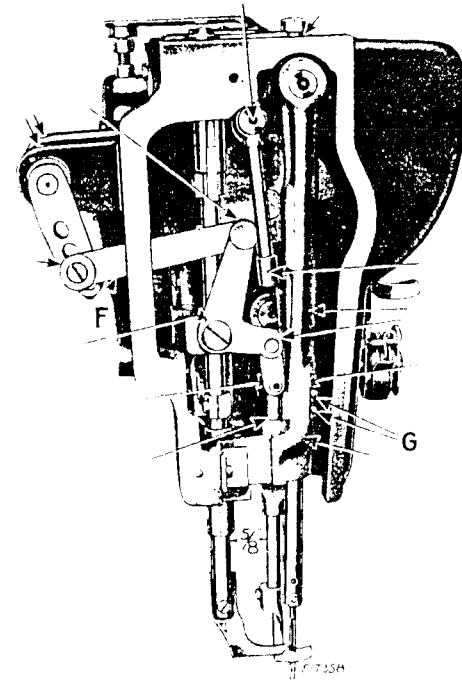

Fig. 4. End View of Machine Showing Oiling Points Also Adjustments on the Machine
In case the needle bar is not correctly set, loosen the needle bar connecting stud pinch screws at (G, Fig. 4) and place the needle bar in correct position as directed above, then retighten the screws (G).
The distance between the vibrating presser bar and lifting presser bar, after adjusting the feed mechanism so that there is no feed movement of the needle bar, should be $\frac{1}{8}$ inch as shown in Fig. 4.